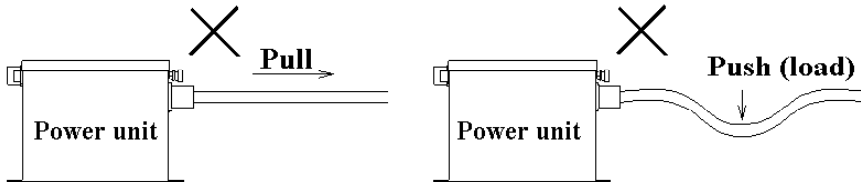

Fig. 8 Pressure on high voltage cable
- Figure 8 shows how not to apply pressure on the high voltage cable. Also, do not attach it to a moving portion of a machine.